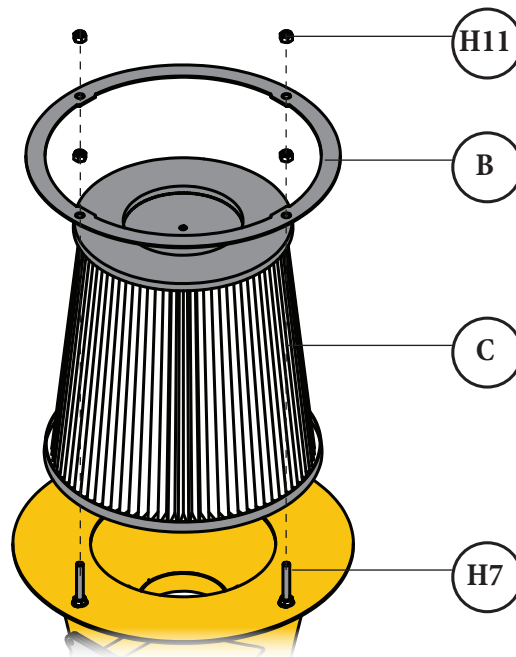

FIG. 9
Slide the Filter Hold-Down Plate (B) over the Filter (C) and the previously installed Hex Head Bolts (H7) and secure in place using four Nylock Nuts (H11) [FIG. 9].